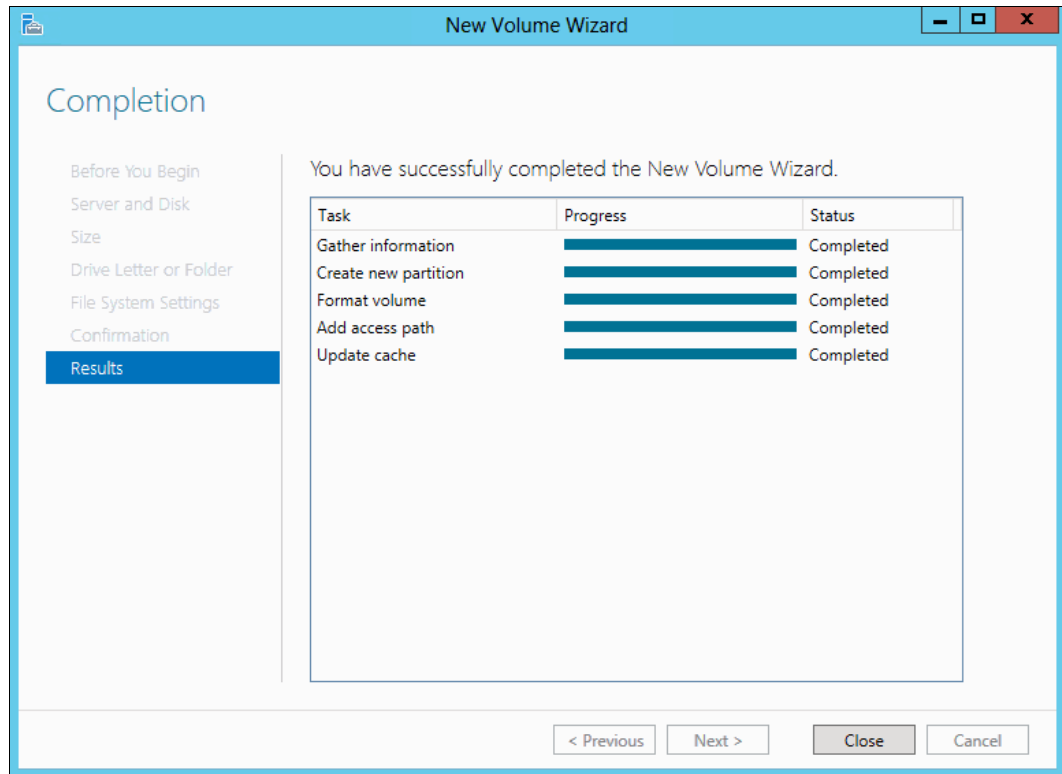

Figure 5-42 New volume success
7. Confirm the new volume configuration on the next page, click **Next** and confirm that volume creation is successful, as shown in Figure 5-42.